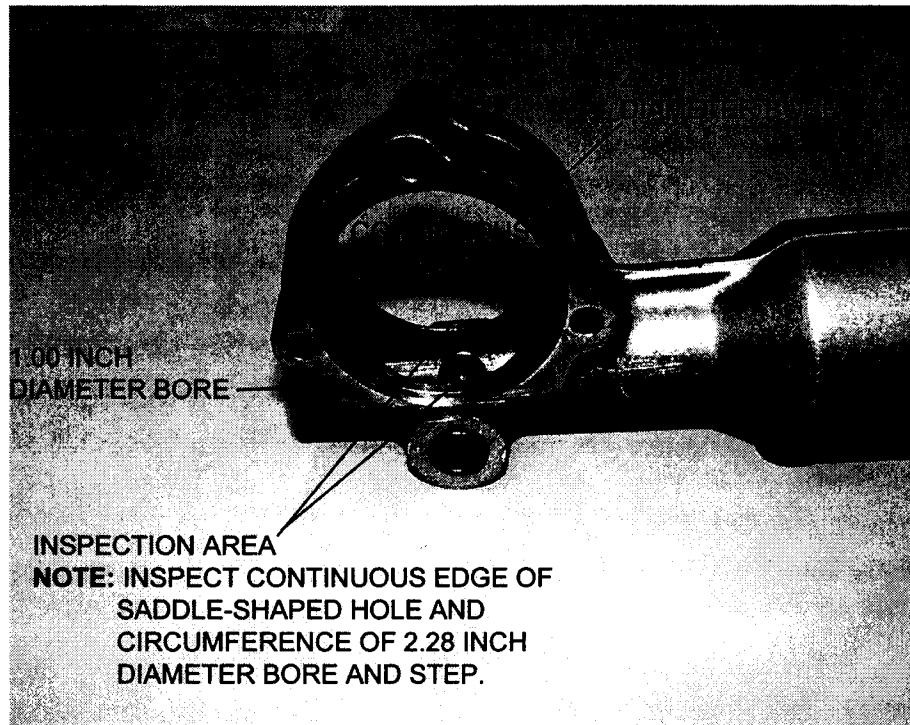

FIGURE 1. MAIN LANDING GEAR ACTUATOR INSPECTION
- C. (Refer to Figure 1.) Perform a fluorescent penetrant inspection in location indicated by Figure 1 on both sides of each main landing gear actuator body.
- (1) Clean each actuator in inspection areas with ZC-7 Cleaner using a lint free cloth.
- (2) Apply ZL-22 Penetrant to the areas previously cleaned, and allow penetrant to remain on these areas for thirty minutes.
- (3) Clean the penetrant from the actuator using a clean, lint free cloth dampened with ZC-7 cleaner. The inspection area is considered clean with an absence of background fluorescences.
- (4) Mix ZP-9 Developer per the manufacturer's instruction on the container and apply a thin coat to the inspection area. Allow 15 minutes for developing time.
- (5) Examine the areas under black light. An 8X to 10X magnifying glass should be used in the examination as some cracks are difficult to see with the naked eye.
- A. (Refer to Figure 1.) Using fine grit emery cloth (600 grit), or equivalent, polish edge of hole intersection as shown in Figure 1.
- (1) Smooth continuous edge of saddle-shaped oval hole where 1.00 inch diameter bore transitions 2.28 inch diameter bore, so that no sharp edges or tool marks can be felt by finger tip.
- (2) Smooth circumference of 2.28 inch diameter bore and step so that no sharp edges or tool marks can be felt by finger tip.
- (3) Flush actuator body with solvent to remove any metal shavings, fluorescent penetrant solution or other foreign matter.